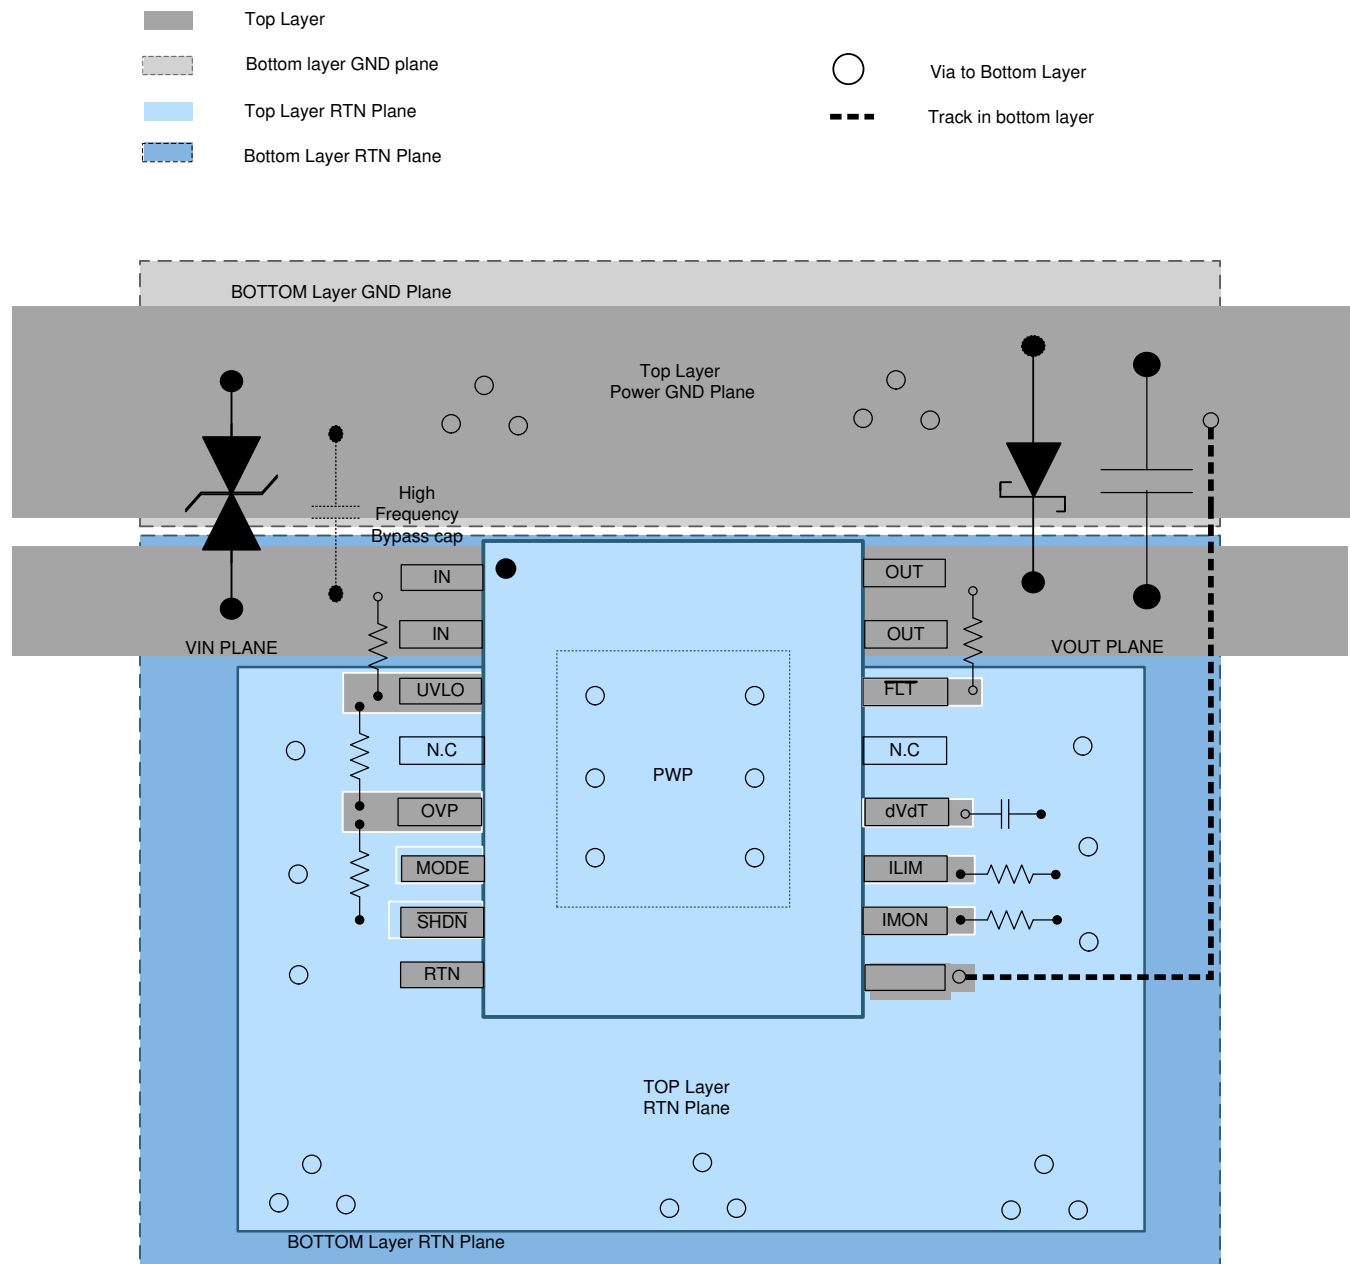
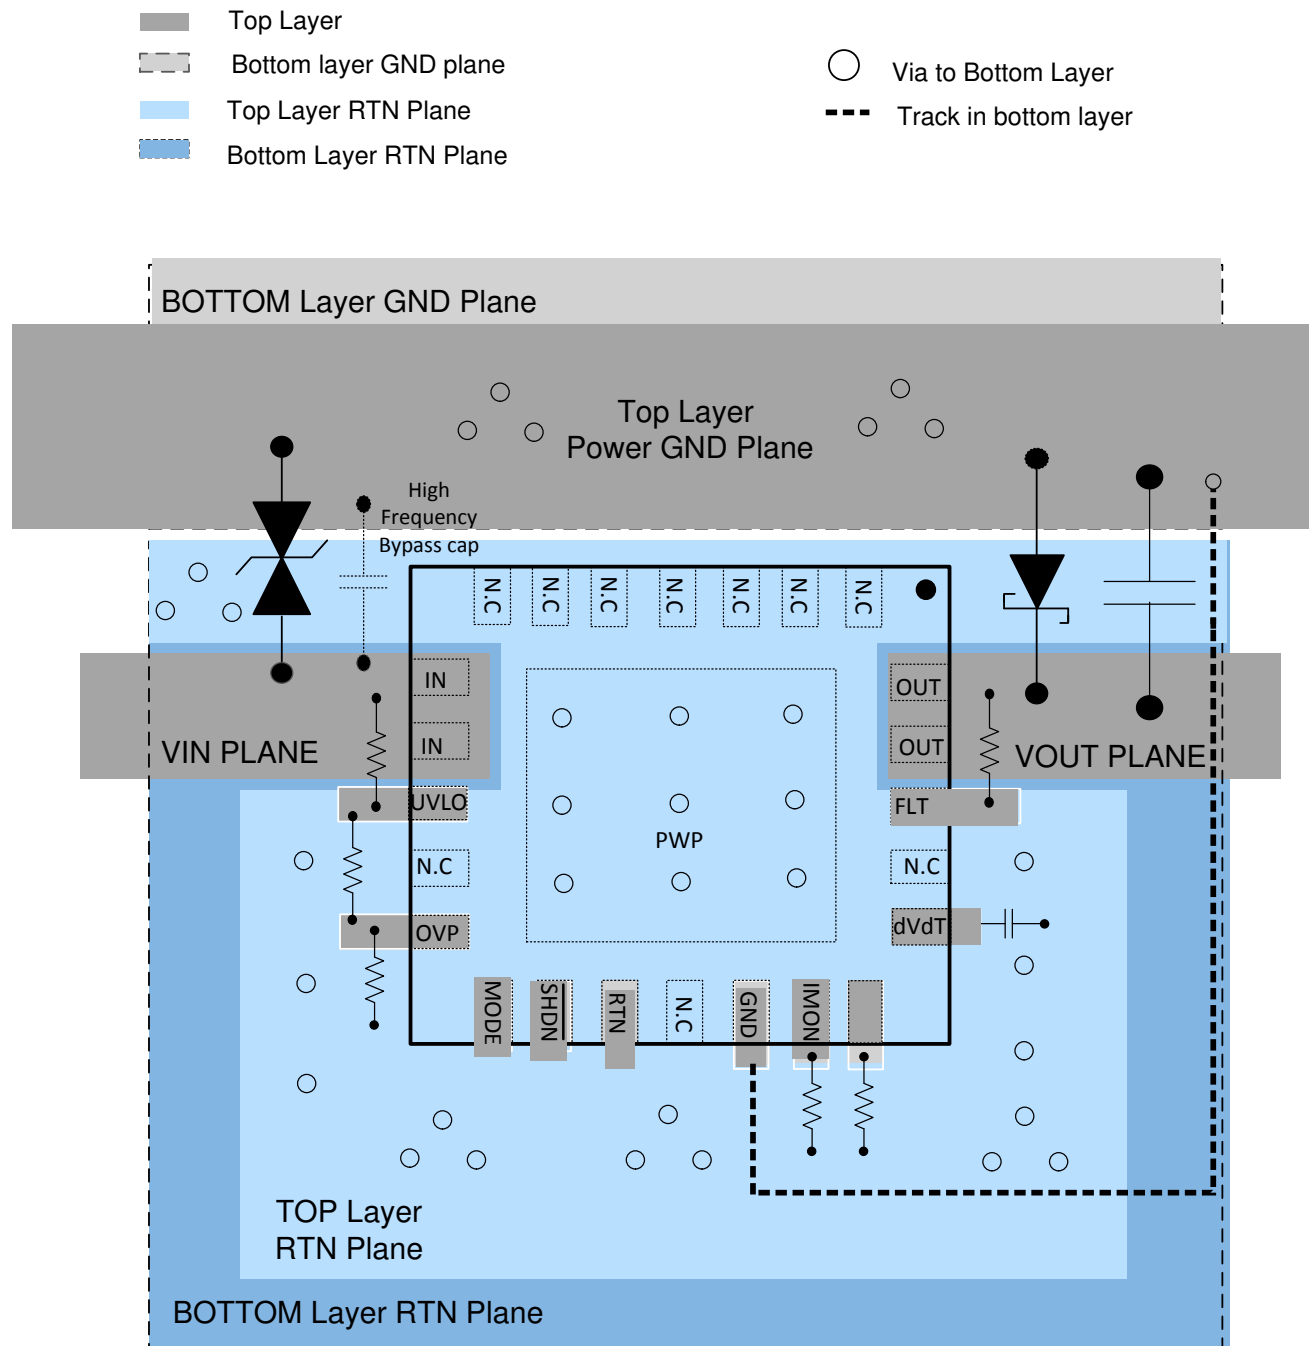

Figure 71. Typical PCB Layout Example With HTSSOP Package With a 2 Layer PCB
Figure 72. Typical PCB Layout Example With VQFN Package With a 2 Layer PCB
- The optimum placement of decoupling capacitor is closest to the IN and GND terminals of the device. Care must be taken to minimize the loop area formed by the bypass-capacitor connection, the IN terminal, and the GND terminal of the IC. See Figure 71 and Figure 72 for PCB layout examples with HTSSOP and VQFN packages respectively.